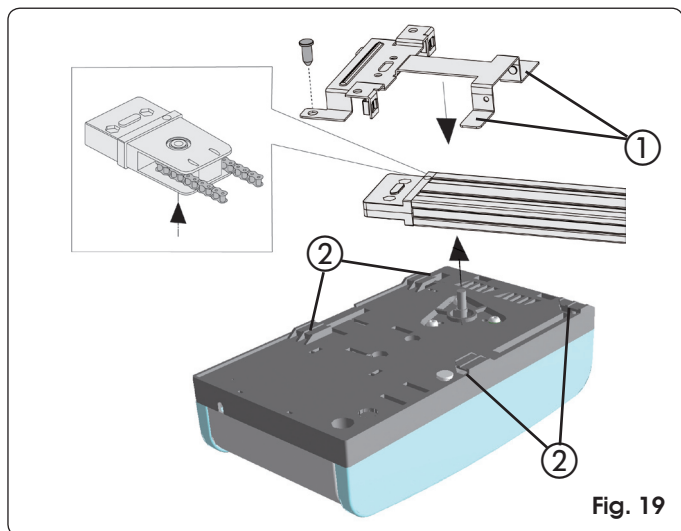
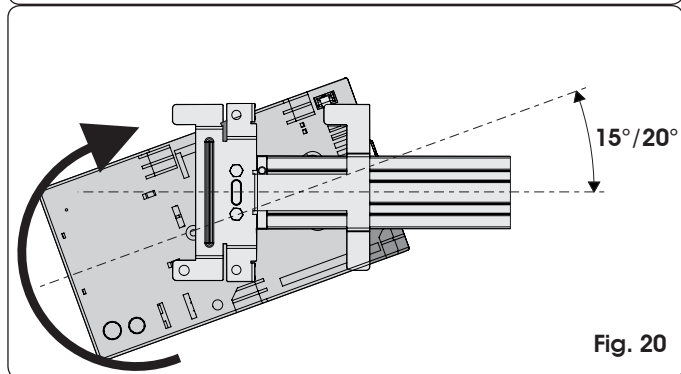
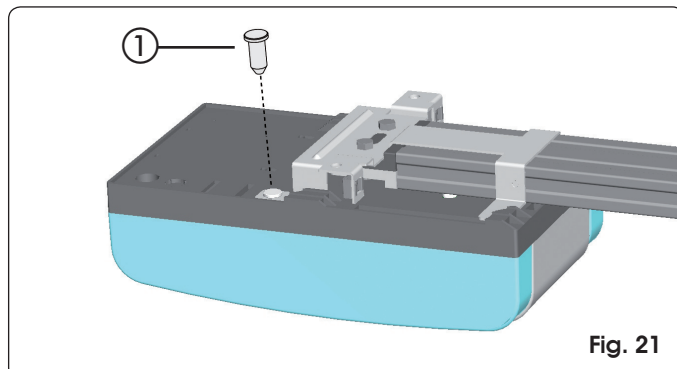

Fig. 19
Fig. 20
Fig. 21
- 1) While keeping the operator inclined at 15/20° (Fig. 20), insert the gearmotor shaft in the coupling on the rear fitting of the sliding guide and make the fins (Fig. 19 ref. ①) near to the seats at the bottom of the operator base (Fig. 19 ref. ②).
- 2) Turn the operator in the direction of Fig. 20 until you reach position of Fig. 21, and fit the pin in the hole of the rear fitting (Fig.21 ref. ①).